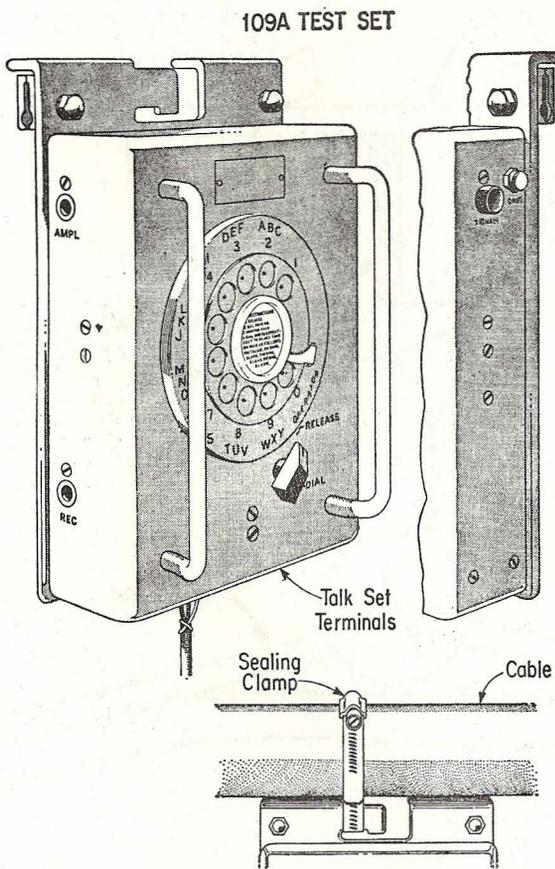

Fig. 3
3.01 The 109A Test Set is illustrated in Fig. 3. It consists of a dialing unit for operating the 108A set from a splice. The dialing unit is housed in an aluminum case equipped with two one-bolt clamps. Provision has also been made for attaching a sealing clamp to the set. The one-bolt clamps are for use in attaching the set to a suspension strand and the sealing clamp for attaching the set to a large diameter cable. The set is equipped with a permanently attached cord for connecting the set to the control pair in the cable. The ground terminal must be connected to the cable sheath. The signal key, when depressed, will operate the alarm in the 108A set to summon the attendant in the central office.